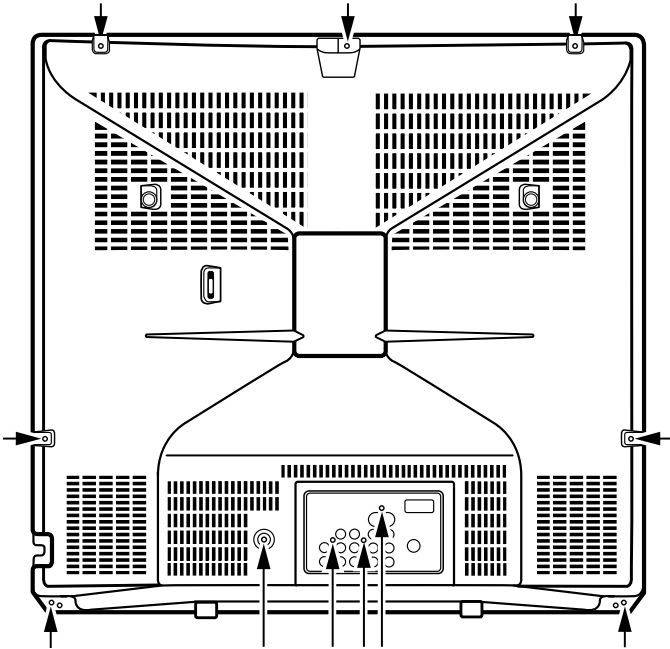

Figure 1. Cabinet Back Removal
1. Refer to Figure 1, remove 11 screws.